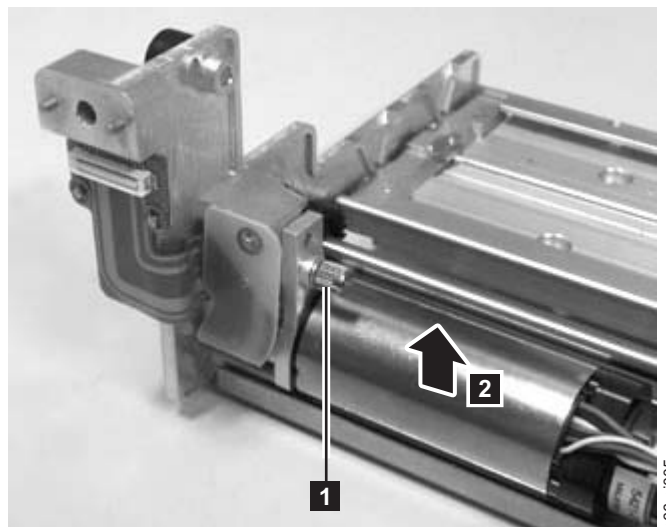

Figure 8-53. Y motor thumb screw
9. Loosen the thumb screw (**1** in Figure 8-53).
10. Tilt the Y Motor to the left and remove from the Y-axis/Picker Assembly (**2** in Figure 8-53).